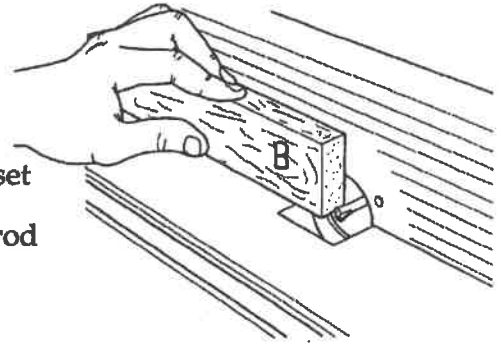

Fig. D-21
4. Place workpiece "B" against the slide and the infeed side of the bit, as in Fig. D-21.